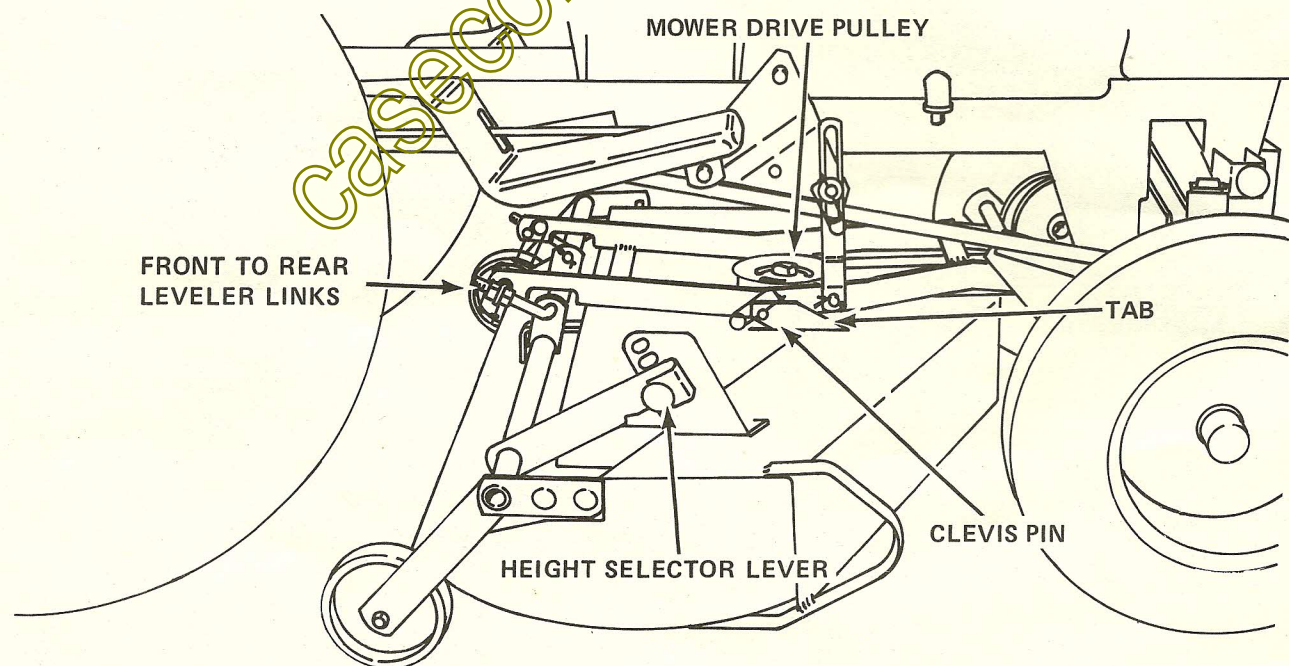

FIGURE 16 MOUNTING THE L44 MOWER DECK
7. Fasten the leveler links to the mounting bracket as shown in Figure 16.